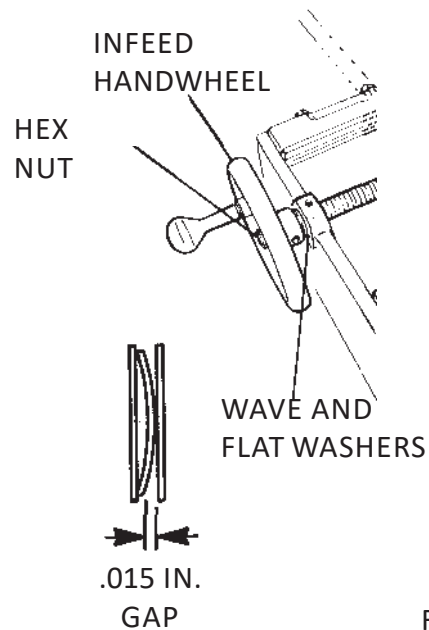

FIG. 7
C. Check for .015 in. [.04mm] gap between the wave washer and the flat washer. See FIG. 7. Readjust the hex lock nut if necessary.